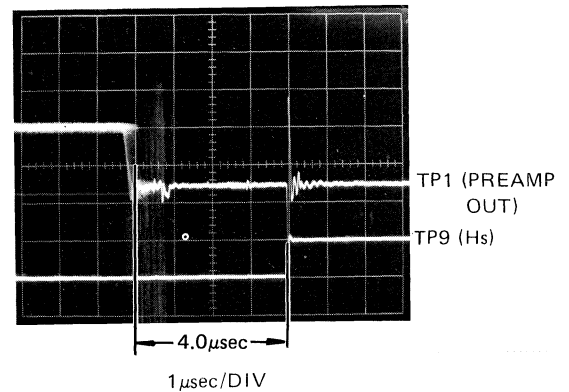

Fig. 4-2-23
- Adjust H.CENT VR4 until the optical black width is $4.0 \mu\text{sec} \pm 0.1 \mu\text{sec}$. (Fig. 4-2-23) If the falling edge of the waveform corresponding to the picture is noisy, adjust for the middle.